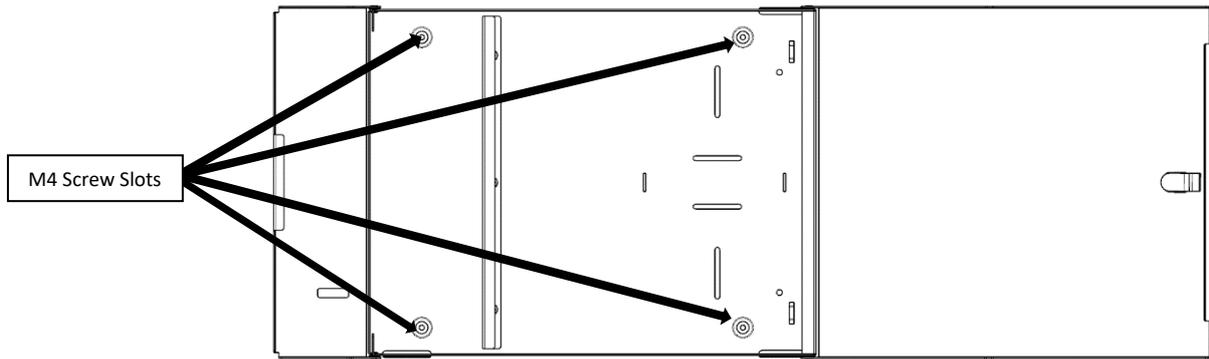

Fig.3
- Mount the Enclosure into the Rack by using 4 no's of M4x16mm mounting screws, M4 Hex Nut and Washers. (Items are included in the accessory kit.) (Fig.3)